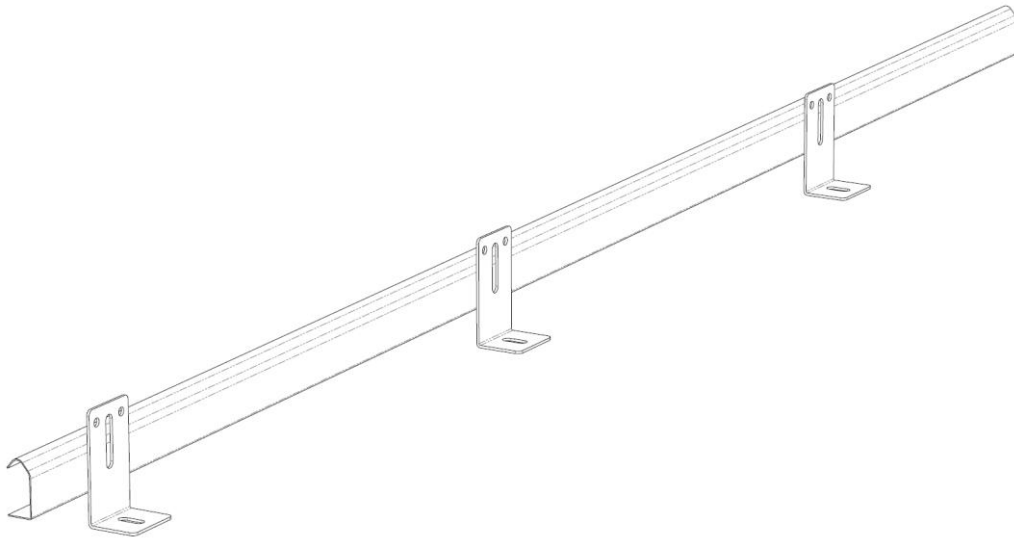

Figure 5
3. Attach jamb brackets guides with small carriage bolts and attach. Ensure that the flat edge of guide is closest to the wall/structure. (Figure 5)